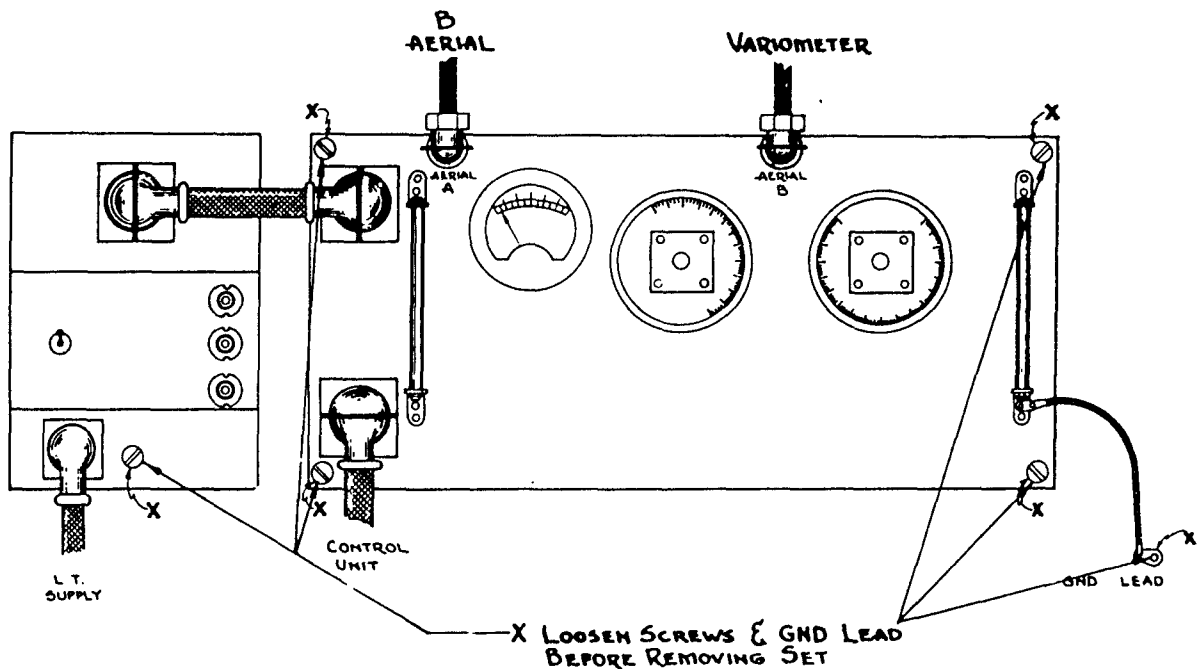

FIG. 1—COMPONENTS AND CABLES OF WIRELESS SET (CDN) No. 19 MK. III
3. Fig. 1 shows how the various components and cables of the set are connected.